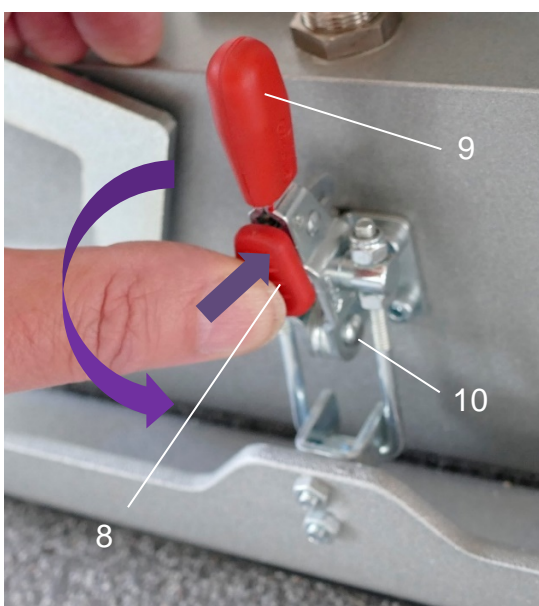

Fig. 4
- To change the suction plate press safety lock (8) on both sides and at the same time swing lever (9) downwards (Fig. 4).
- Check that the suction plate is firmly positioned. The safety locks (8) must be engaged (Fig. 4)!